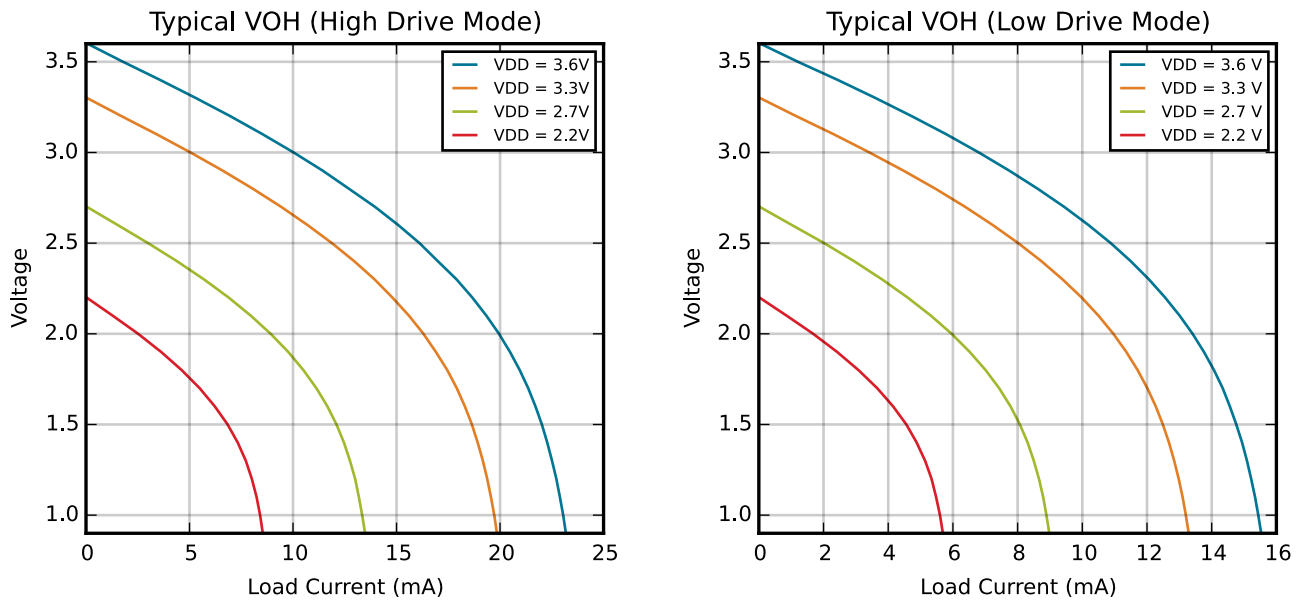
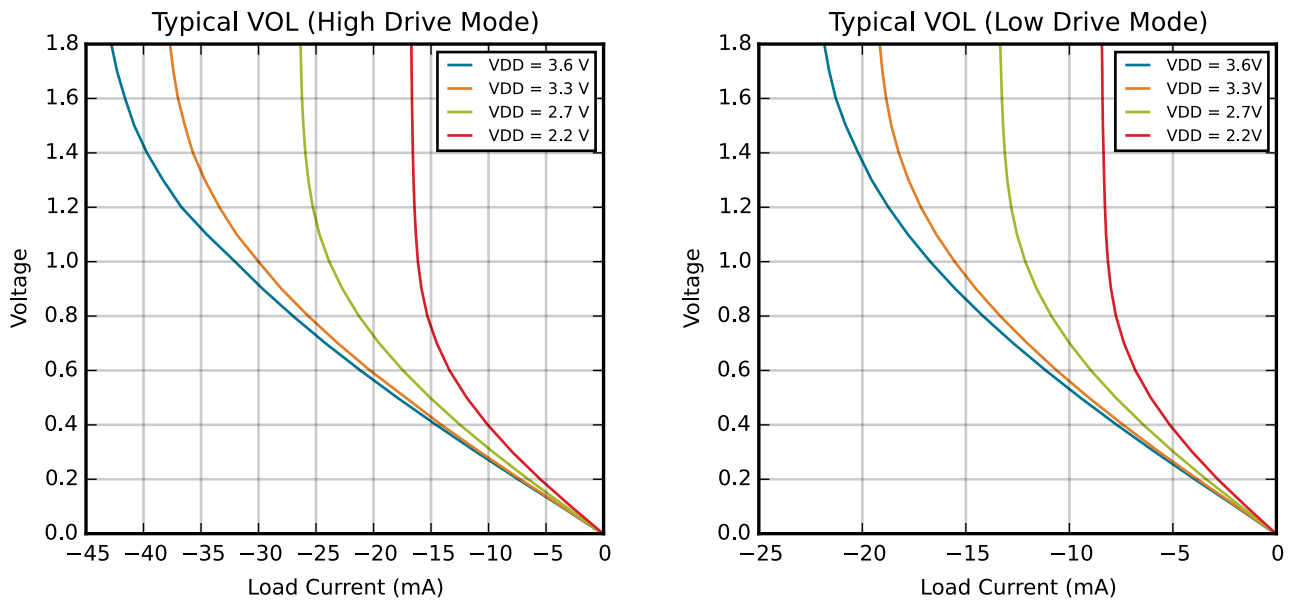

Figure 4.6. Typical VOH Curves
Figure 4.7. Typical VOL Curves
1. See Figure 4.6 Typical V_{OH} Curves on page 33 and Figure 4.7 Typical V_{OL} Curves on page 33 for more information.